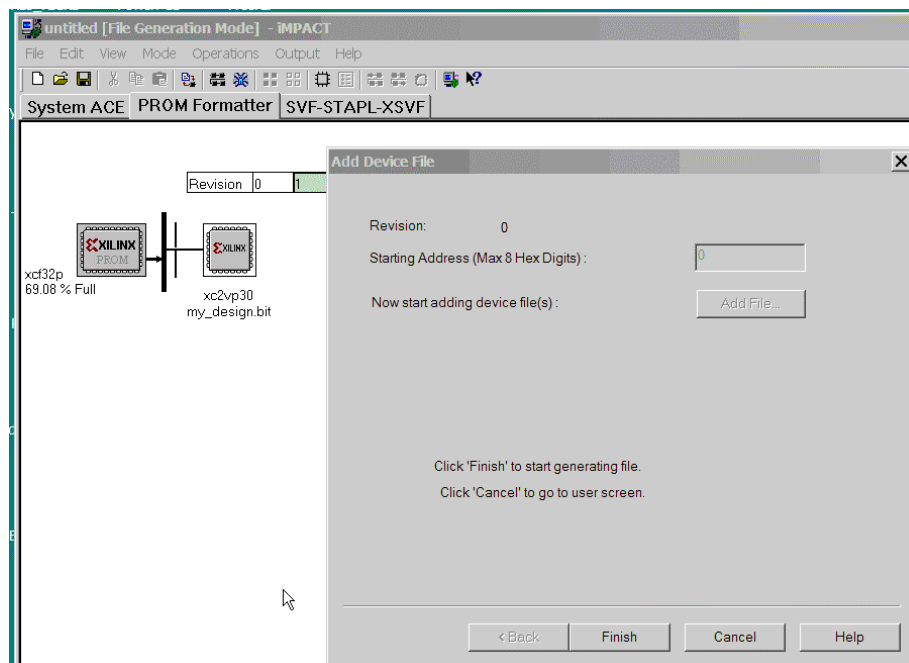

Figure B-9: Generating the MCS File
12. Click on Open and answer No when prompted to add another design file to Revision 1. Click on Finish to start the generation of the MCS file as shown in Figure B-9.